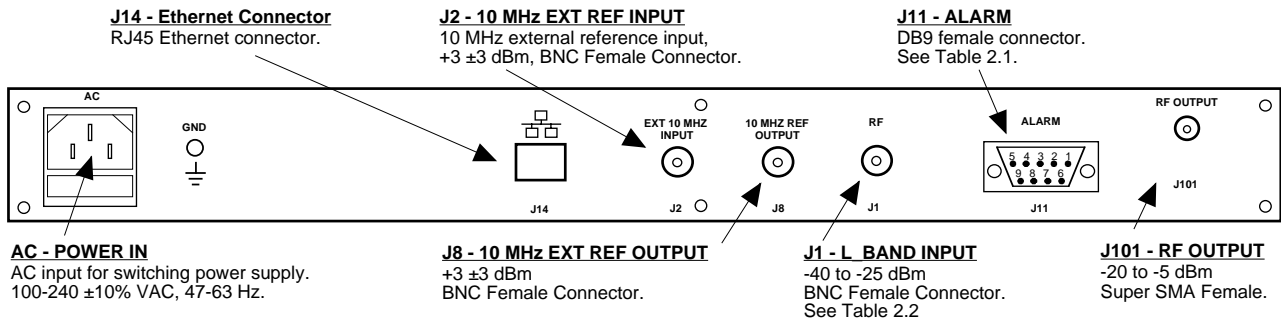

FIGURE 2.1 3115-200 Rear Panel I/O's
Figure 2.1 shows the input and output connectors on the rear panel.
1. Connect a -40 dBm to -20 dBm signal to RF IN, J1 (Figure 2.1).